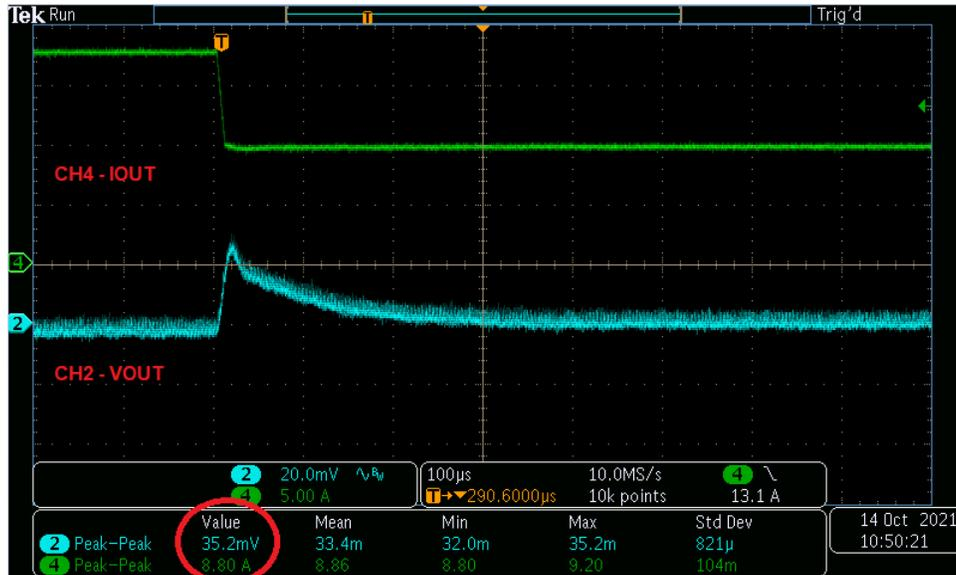

Figure 4-5. Transient Response to Load Step 18A to 9A at 1A/μs
- Change the trigger on CH4 to falling edge to capture the transient response of VOUT to negative current step from 18A to 9A as shown in Figure 4-5.